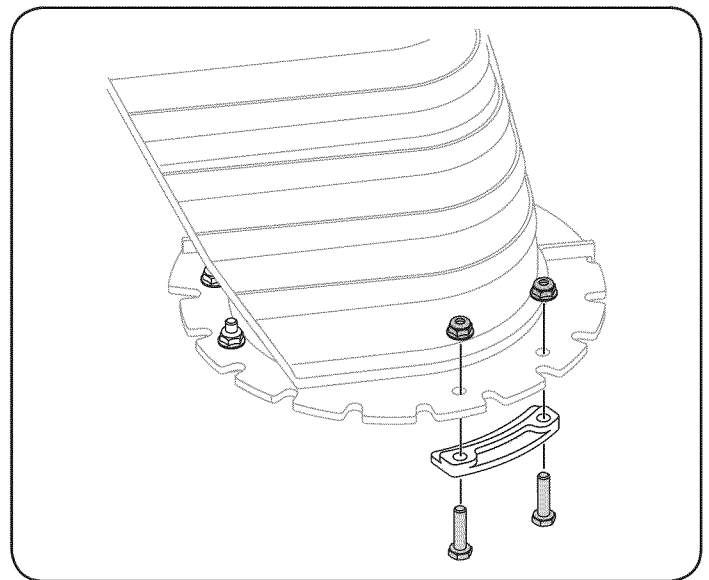

Figure 3
1. Remove lock nuts and screws securing one of the flange keepers to the chute assembly. Loosen the fasteners of the other two flange keepers. See Figure 3.